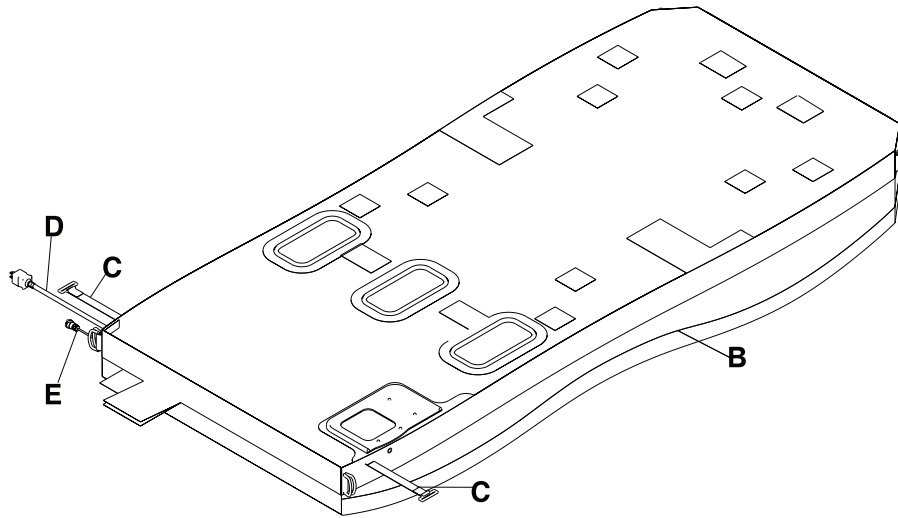

Figure 1-10: Bottom support surface cover
2. Unplug the support surface power cord (D) (Figure 1-10 on page 1-35).
3. Disconnect the support surface integration cable (E) (Figure 1-10 on page 1-35) from the bed.
9. Using two operators, turn the support surface over (Figure 1-10 on page 1-35).
13. Grasp the zipper pull tool or equivalent and pull to unzip the bottom cover from the top cover (B) (Figure 1-10 on page 1-35).
14. Feed the CPR release straps (C), power cord (D), and integration cable (E) through the bottom cover (Figure 1-10 on page 1-35).